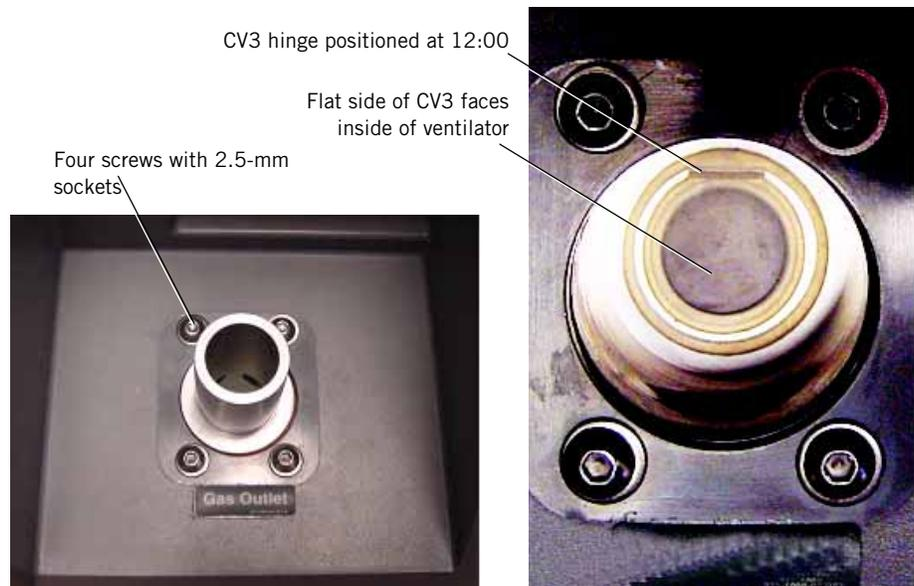

Figure 9-74: Inspiratory Outlet Port and Check Valve CV3 Orientation
Follow these steps to remove the inspiratory manifold assembly (Figure 9-72, Figure 9-73, Figure 9-74):
6. Install four screws and washers at the inspiratory outlet port (Figure 9-74), but do not tighten until the outlet port is installed and secured.